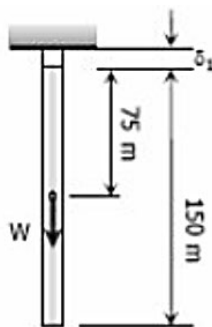

Figure 1 / Rajah 1
- (b). A steel rod having a cross-sectional area of 300 mm^2 and a length of 150 m is suspended vertically from one end (Figure 1). It supports a tensile load of 20 kN at the lower end. If the unit mass of steel is 7850 kg/m^3 and $E = 200 \times 10^3 \text{ MN/m}^2$, find the total elongation of the rod.